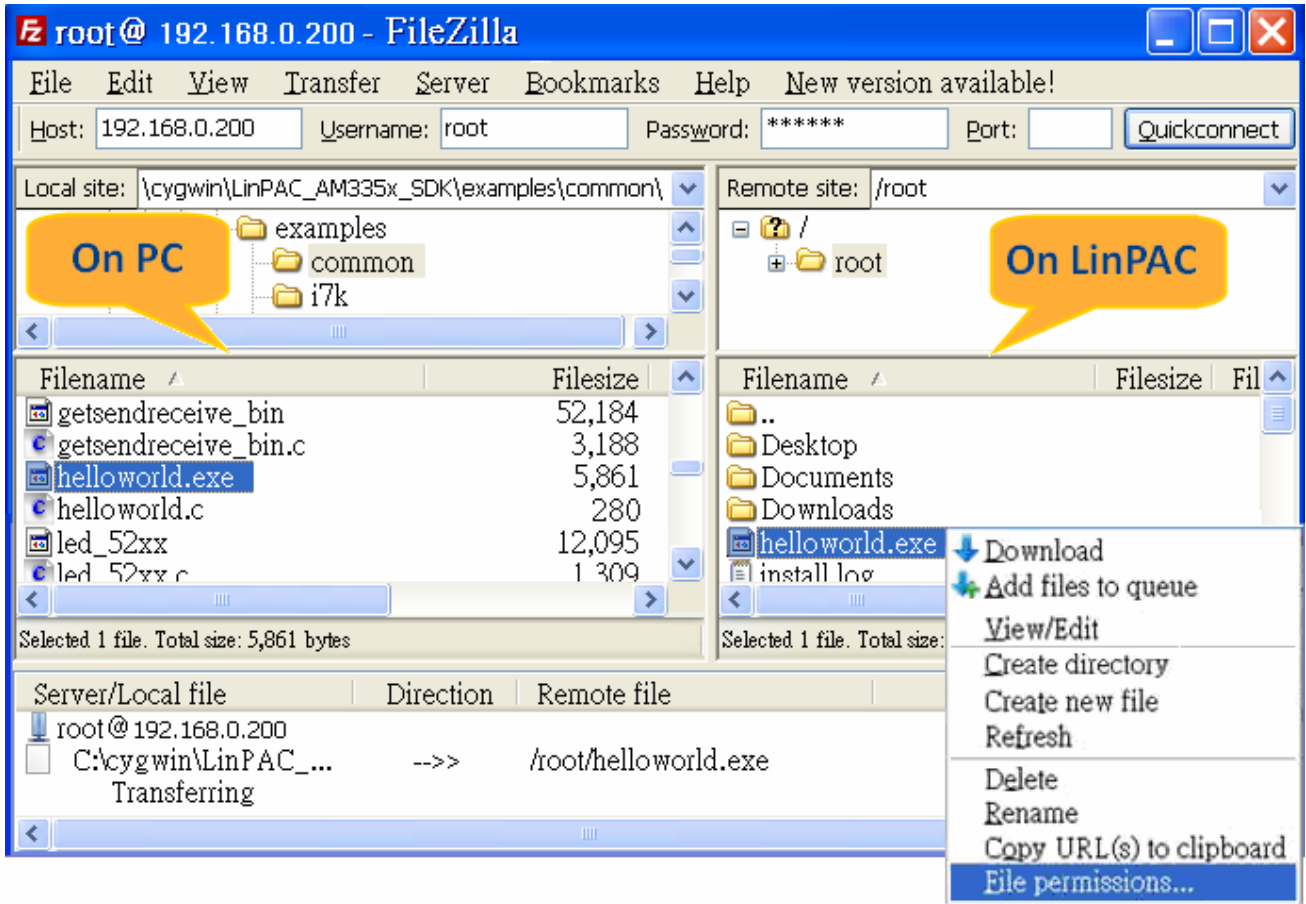

Fig.5-7
(3) Click the helloworld.exe file in the LP-8x21 to select it and then right click the file icon and click the **“Permissions”** option. In the Properties dialog box, type 777 into the Numeric textbox, and then click the OK button. Refer to Fig. 5-7 and Fig. 5-8 for more details.